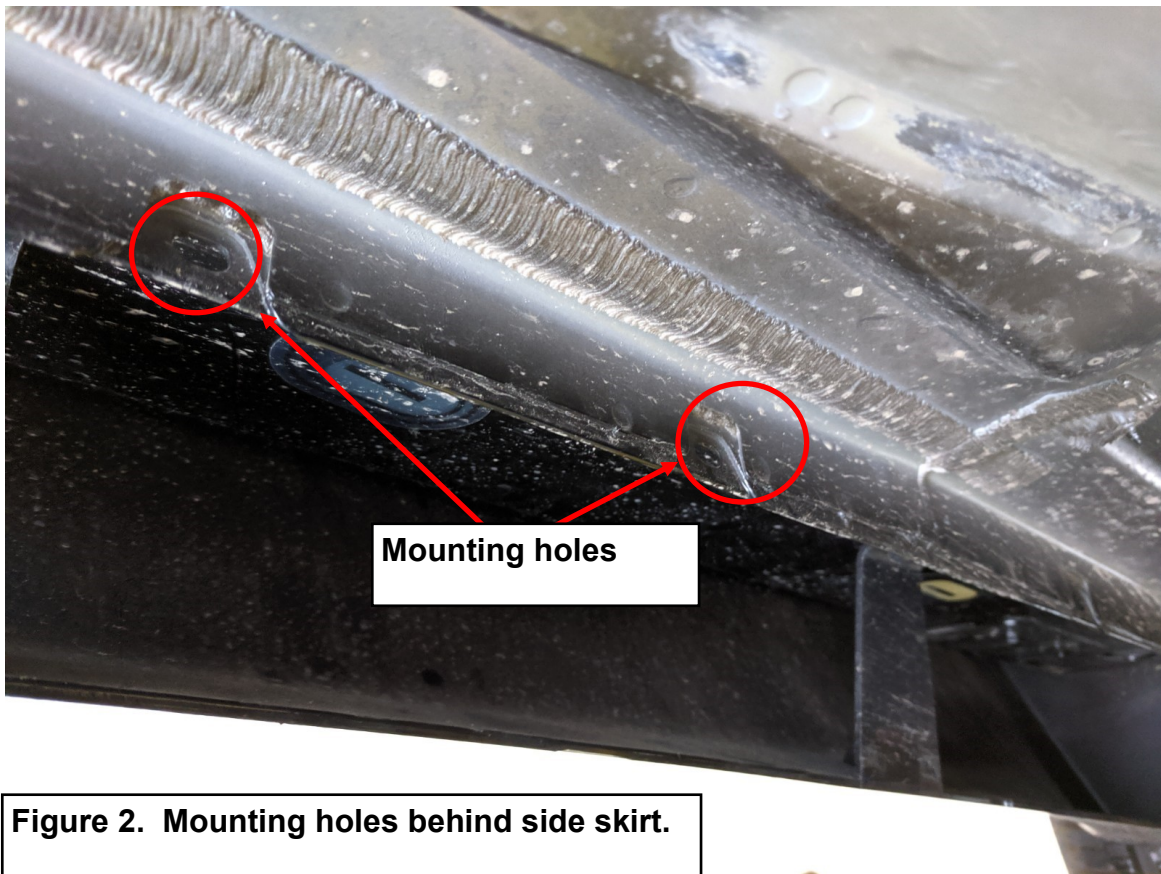

Figure 2. Mounting holes behind side skirt.
1. There are 8 holes on the underside of the vehicle (**Figure 2**). Putco recommends using the 2nd, 4th, 6th, and 7th hole, starting from the back of the vehicle. Other combinations can be used to move the lightbar fore or aft.